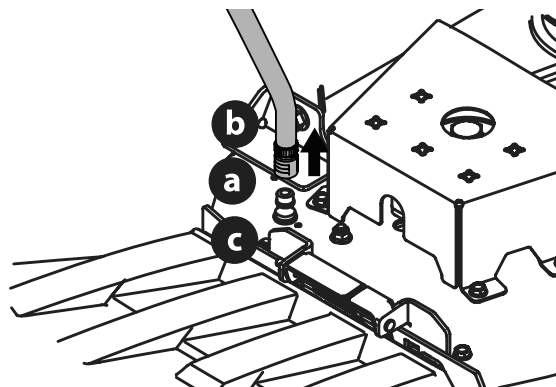

Figure 30
3. Pull back the lock collar (a) of the nozzle adapter (b) and push the nozzle adapter onto the deck wash nozzle (c). Release the lock collar to lock the nozzle adapter on the deck wash nozzle (Figure 30).